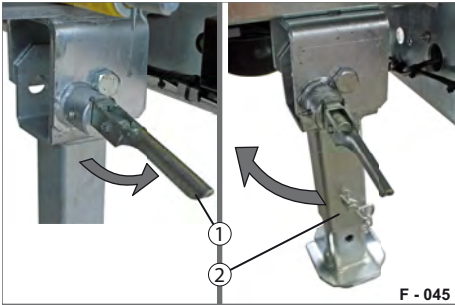

Fig. 62 Folding in the folding support
- Pull the spring bar (Fig. 62/1) into the horizontal position.
- Fold the folding support (Fig. 62/2) upwards (into the horizontal position) and lock it with the spring bar (Fig. 62/1).